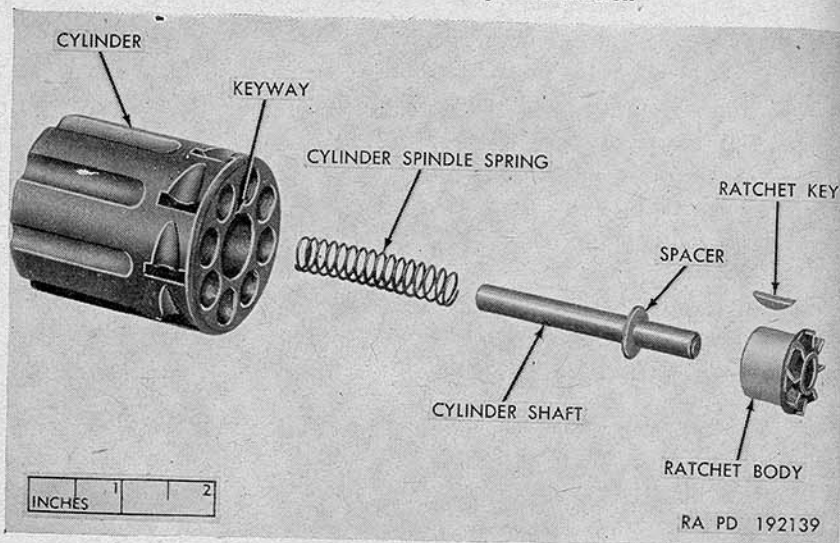

Figure 99. Cylinder assembly—exploded view.
c. *Disassembly of Cylinder Assembly* (fig. 99).
- (1) Use a drift and tap out the cylinder shaft out the rearward end of the cylinder.
- (2) Remove cylinder spindle spring.
- (3) Remove ratchet body from cylinder shaft.
- (4) Remove ratchet key from ratchet body.
d. Assembly of Cylinder Assembly (fig. 99).
- (1) Install ratchet body on short end of cylinder shaft, closest to spacer.
- (2) Insert ratchet key in ratchet body.
- (3) Install cylinder spindle spring into cylinder from rear.
- (4) Insert cylinder shaft, with ratchet, into rear of cylinder. Align ratchet key with keyway in cylinder. Press into position until flange on ratchet body contacts rear face of cylinder.